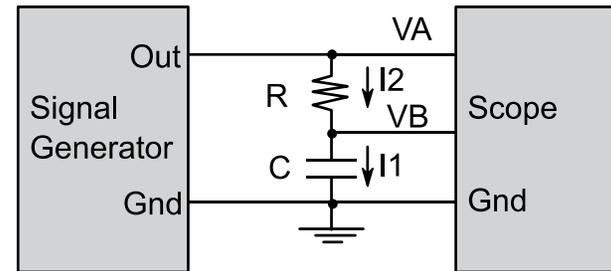

Figure 2. Resistance-capacitor circuit.
You will use the circuit shown in Figure 2 to study the behavior of capacitors. As mentioned earlier, we will study the circuit in the AC, or time-varying mode. You will use a signal generator to create an AC signal on VA, and use an oscilloscope to measure the AC signal across VA-VB and on VB. It is best if the shape of the AC signal is sinusoidal, but we could perform the lab with other waveform shapes, such as square wave.
- The complex impedance model of a capacitor ($Z=1/(j2\pi fC)$). Notice that $X = |Z|$. The total impedance in Figure 2 is $R+Z$. The gain of the circuit (VB/VA) can be calculated as $Z/(R+Z)$. Calculate the gain of the circuit at its cutoff frequency.